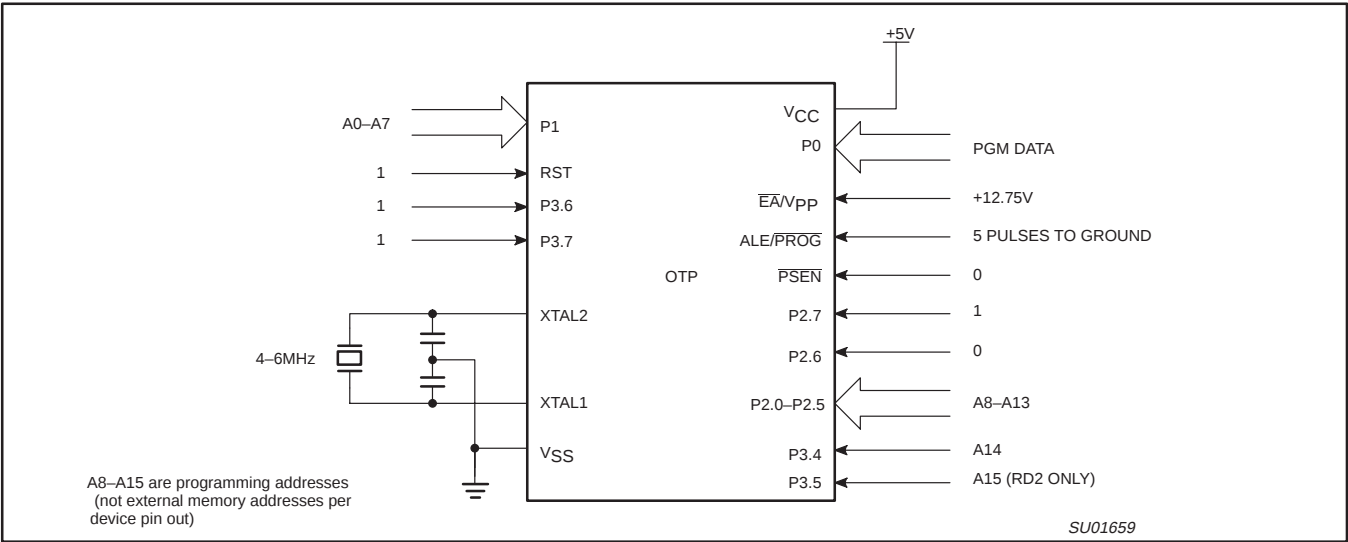
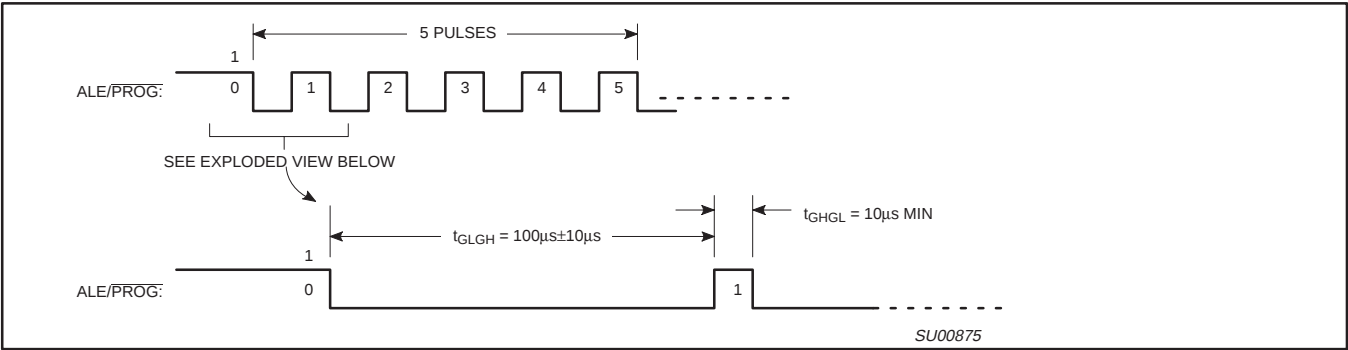
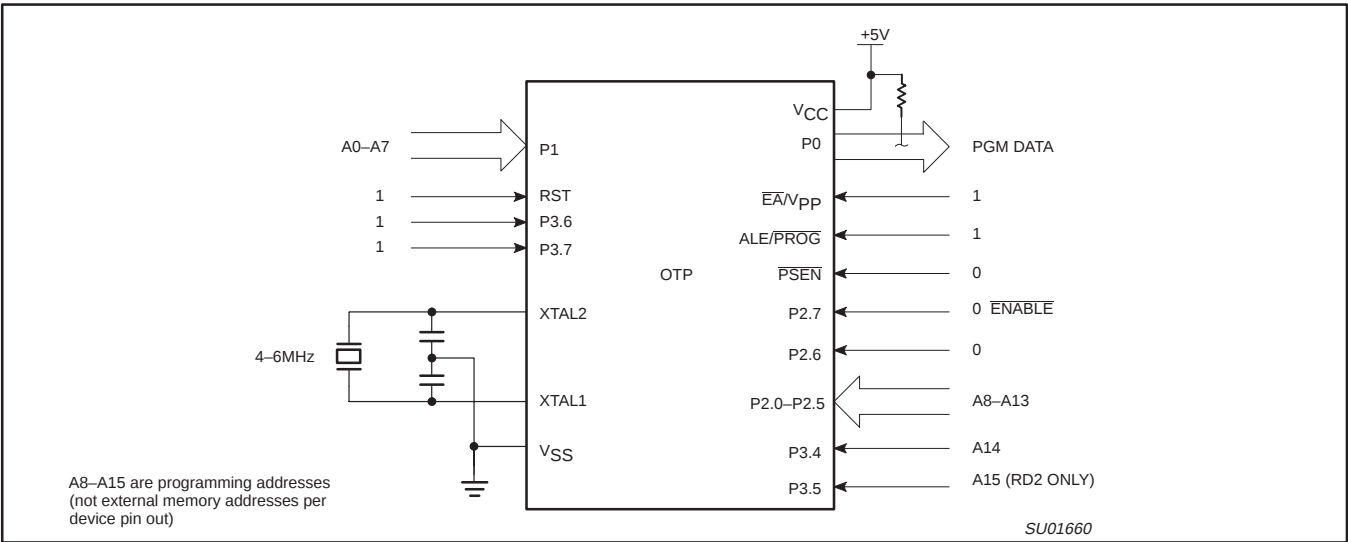

Figure 47. Programming Configuration
Figure 48. $\overline{PROG}$ Waveform
Figure 49. Program Verification
Table 8 shows the logic levels for reading the signature byte, and for programming the program memory, the encryption table, and the security bits. The circuit configuration and waveforms for quick-pulse programming are shown in Figures 47 and 48. Figure 49 shows the circuit configuration for normal program memory verification.
The setup for microcontroller quick-pulse programming is shown in Figure 47. Note that the device is running with a 4 to 6MHz oscillator. The reason the oscillator needs to be running is that the device is executing internal address and program data transfers.
The address of the EPROM location to be programmed is applied to ports 1 and 2, as shown in Figure 47. The code byte to be programmed into that location is applied to port 0. RST, $\overline{PSEN}$ and pins of ports 2 and 3 specified in Table 8 are held at the 'Program Code Data' levels indicated in Table 8. The ALE/PROG is pulsed low 5 times as shown in Figure 48.
If security bits 2 and 3 have not been programmed, the on-chip program memory can be read out for program verification. The address of the program memory locations to be read is applied to ports 1 and 2 as shown in Figure 49. The other pins are held at the 'Verify Code Data' levels indicated in Table 8. The contents of the address location will be emitted on port 0. External pull-ups are required on port 0 for this operation.
* FOR PROGRAMMING CONFIGURATION SEE FIGURE 47.
FOR VERIFICATION CONDITIONS SEE FIGURE 49.